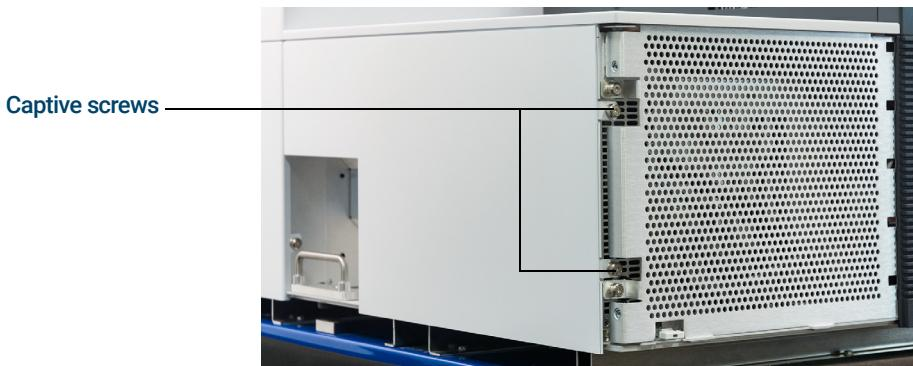

Figure 14. Left side cover captive screws
- 3 To remove the left side cover, disengage the two captive screws at the front edge of the cover. (See **Figure 14**.)